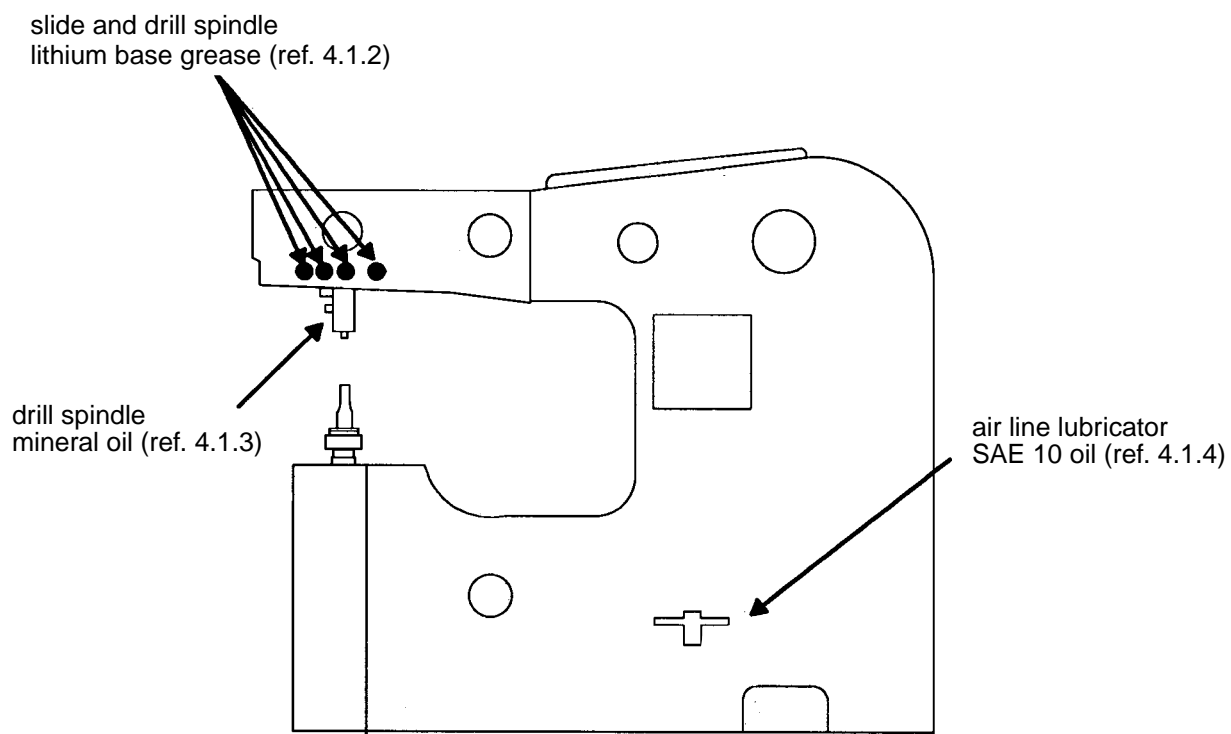

Figure 6 - Lubrication Points
- Lubricate the slide and drill spindle on the drill riveter according to Figure 6.
- Check and re-fill the air line lubricator (see Figure 6), if necessary, with SAE 10 oil (see equipment section, paragraph 4.1.3).